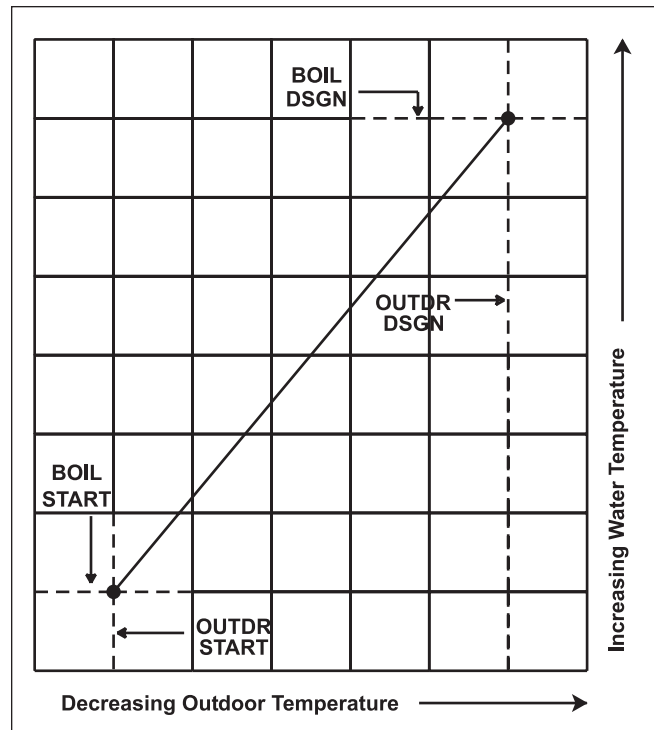

Figure 15. Temperature Control Outdoor Start Graph.
**Boiler Start (BOIL START)** – The BOIL START temperature is the theoretical boiler supply water temperature that the heating system requires when the outdoor air temperature equals the OUTDR START temperature setting. The BOIL START is typically set to the desired building temperature (see Figure 15).